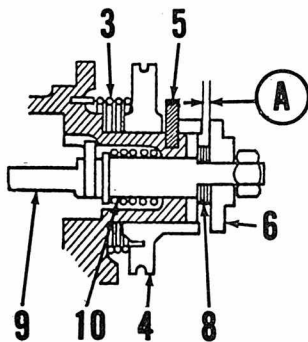

Fig. Y9-6—Clearance (A) should be 0.020-0.025MM and is adjusted by varying shims (8).
The pump must be correctly adjusted to provide the correct amount of oil for proper lubrication. Adjustment should be checked every 2,000 miles. To adjust, proceed as follows: Check the plunger minimum stroke by turning the starter plate (16) until clearance between pulley and adjusting plate is at its minimum, then measure clearance (A—Fig. Y9-6) with a